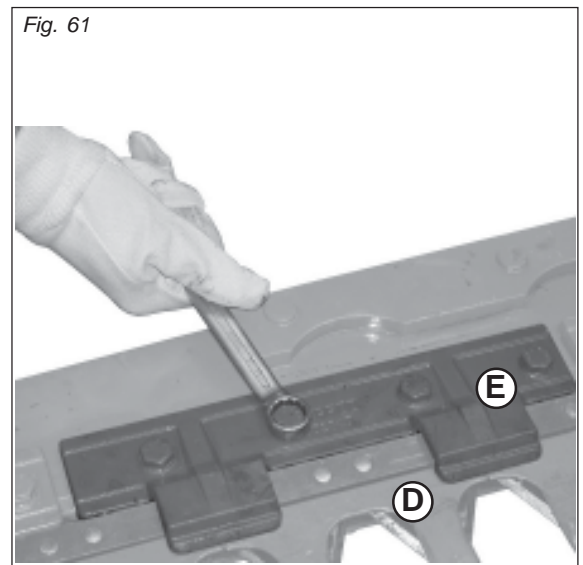

Fig. 61
At the start of each season it is important to check that the connection between the tooth-holding bar (D, Fig. 61) and the blade guide (E) is correct.
- unscrew the blade guide (Fig. 61);